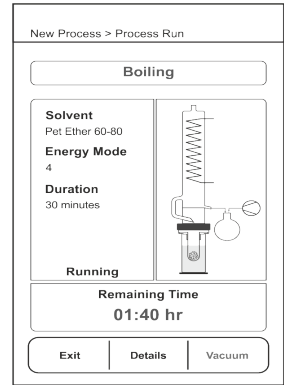

Fig. No. 24.1
f. **Process Run** (Ref. Fig. No. 24.1 to 24.4)